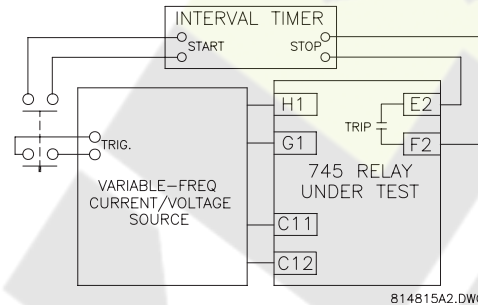

FIGURE 7-12: Frequency element testing
- ▷ Connect the signal source and timer start triggers as shown in FIGURE 7-12: *Frequency element testing* on page 7-274.